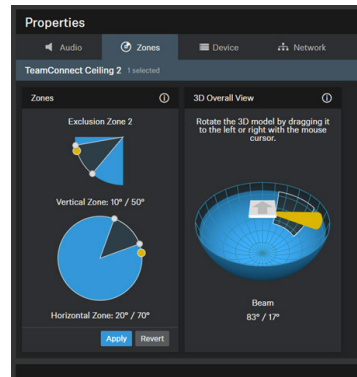

Figure 7. Control Cockpit Exclusion Zones Adjustment
3. Edit the vertical and horizontal angles of the selected exclusion zones (see figure 7 on page 6) to remove the observed noise.